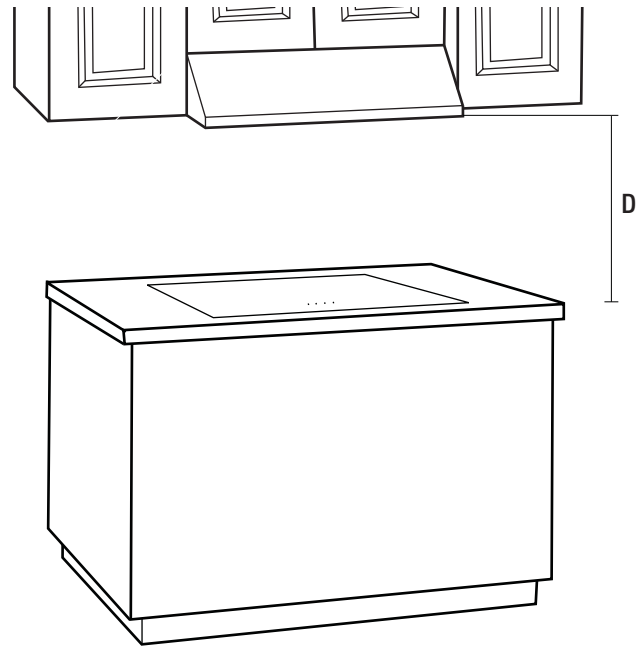

Fig. 1
4. If you choose to hang the range hood as below (Fig. 1) distance (D) from the cooktop surface, use extra caution as the surface of range hood may be extremely hot to the touch when in use. For QR001, QR003, QR006, QR009 & QR014, (D in Fig. 1) is 458 mm - 710 mm (18 in. - 28 in.). For QR019, (D in Fig. 1) is 432 mm - 813 mm (17 in. - 32 in.).